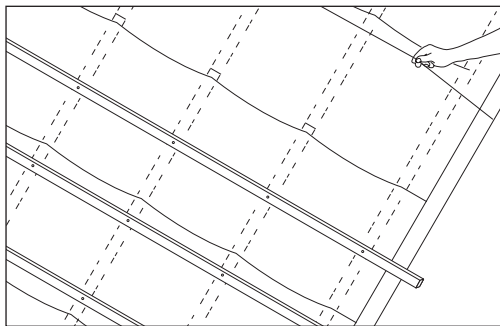

Fig 18 – Striking chalk lines
- Strike a chalk/ochre line at 90° to perpendicular line (Fig 18).